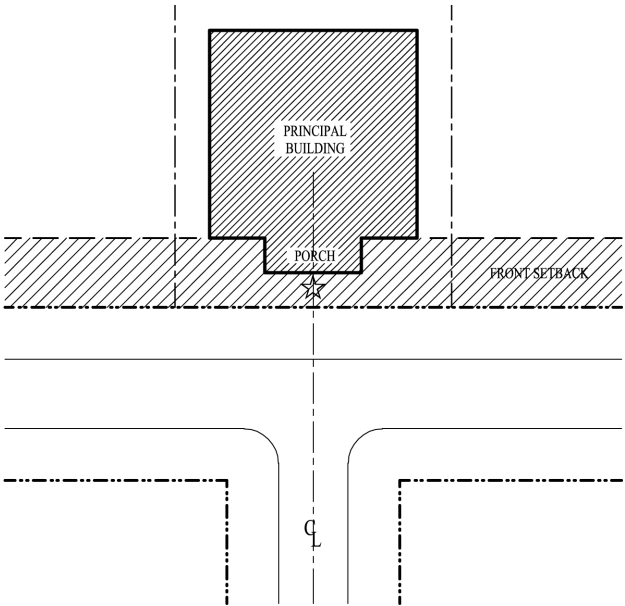

Figure 11
- » Particular attention shall be paid to buildings situated at the ends of streets or open spaces. See Figure 11. These buildings shall have special articulation and massing, such as bays, porches or stoops, or other unique features; should be placed such that garage doors are oriented away from the view corridor; and may require additional detail or features as required by the Village.